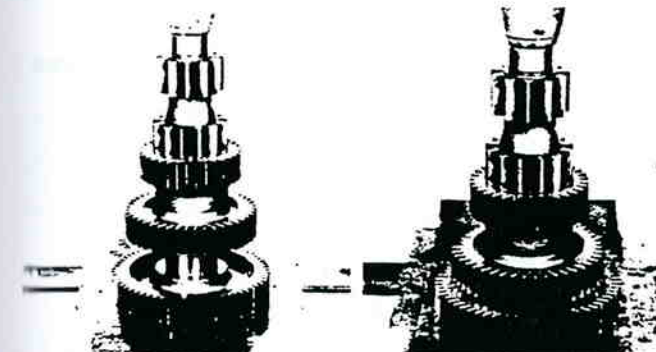

Figure 13-92. 4th Speed and PTO Gear Installation.
7. Press the power take-off gear on countershaft, bullet nose teeth toward rear of shaft (figure 13-92).